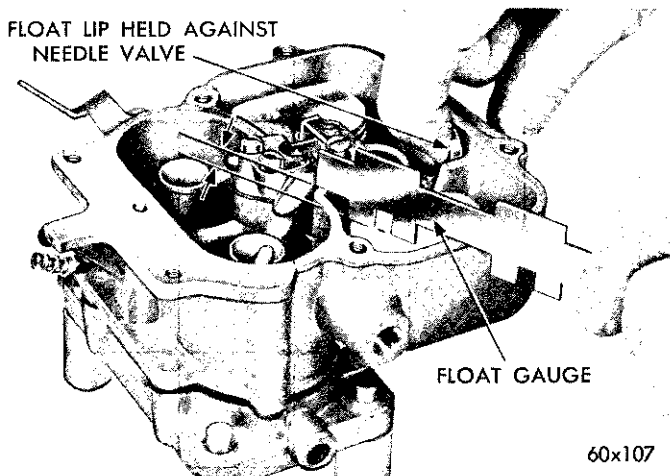

Fig. 14—Checking Float Setting
(1) Install the floats and fulcrum pin.
(2) Assemble the fuel inlet needle valve, seat and gasket and insert in position in the main body. Tighten securely. (If the needle valve is ridged or badly worn, install a new needle valve and seat assembly.)
(3) Using Tool T109-239 or a "T" scale, check the float setting, as shown in Figure 14. There should be 9/32" from top of the crown of each float to top